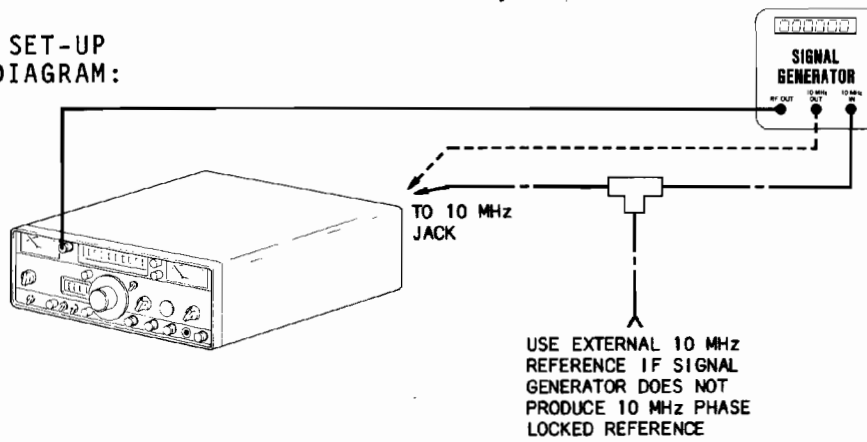

Figure 3-4 Frequency Error Meter Lab
1. Connect FM/AM-500A to accessory test equipment as shown in Figure 3-4.
2. Verify FREQ ERROR Meter (21) indicates 0 Hz ( $\pm 0$  Hz).
4. Set Power Switch (17) in "LINE" position. Verify LOCK Lamp (22) illumination is steady and that FREQ ERROR Meter (21) indicates -10 kHz ( $\pm 300$  Hz).
5. Rotate Frequency Error Meter Range Switch (19) to "RF 3K".
6. Rotate RF FREQUENCY Thumbwheels (25) to "500 003 0". Verify FREQ ERROR Meter (21) indicates -3 kHz ( $\pm 300$  Hz).
7. Rotate Frequency Error Meter Range Switch (19) to "RF 1K".
8. Rotate RF FREQUENCY Thumbwheels (25) to "500 001 0". Verify FREQ ERROR Meter (21) indicates -1 kHz ( $\pm 90$  Hz).
9. Rotate RF FREQUENCY Thumbwheels (25) to "500 000 0". Verify FREQ ERROR Meter (21) indicates 0 Hz ( $\pm 30$  Hz).
10. Rotate RF FREQUENCY Thumbwheels (25) to "499 999 0". Verify FREQ ERROR Meter (21) indicates +1 kHz ( $\pm 30$  Hz).
11. Rotate Frequency Error Meter Range Switch (19) to "RF 3K".